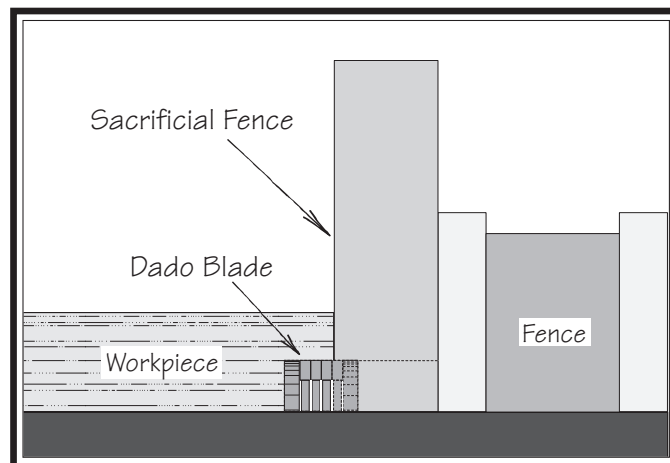

Figure 77. Rabbet cutting.
3. Adjust fence and align workpiece to perform cutting operation, as shown in **Figure 77**.